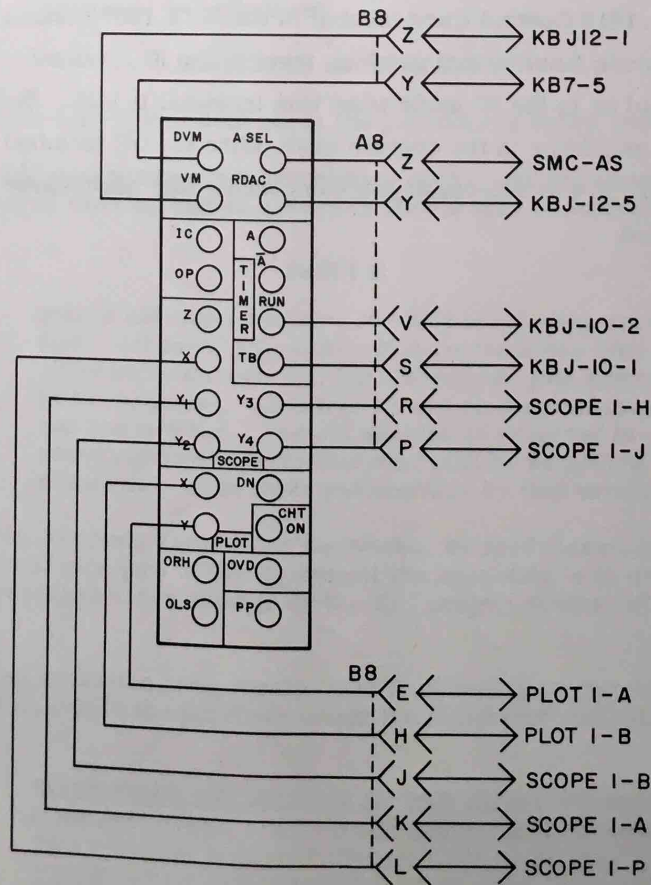

Figure 3.8. Trunk Wiring on Control Tray
3.4.3.4 *Trunk Circuits.* Many of the patch terminations on the control tray are used to give convenient inputs or output to readout devices or circuits not otherwise terminated on the patch panel. The trunk circuits, which consist of straight-through wiring, and the associated patching terminations are described in the sections or manuals dealing with their function. Figure 3.8 shows the patch terminals and their ultimate destinations.